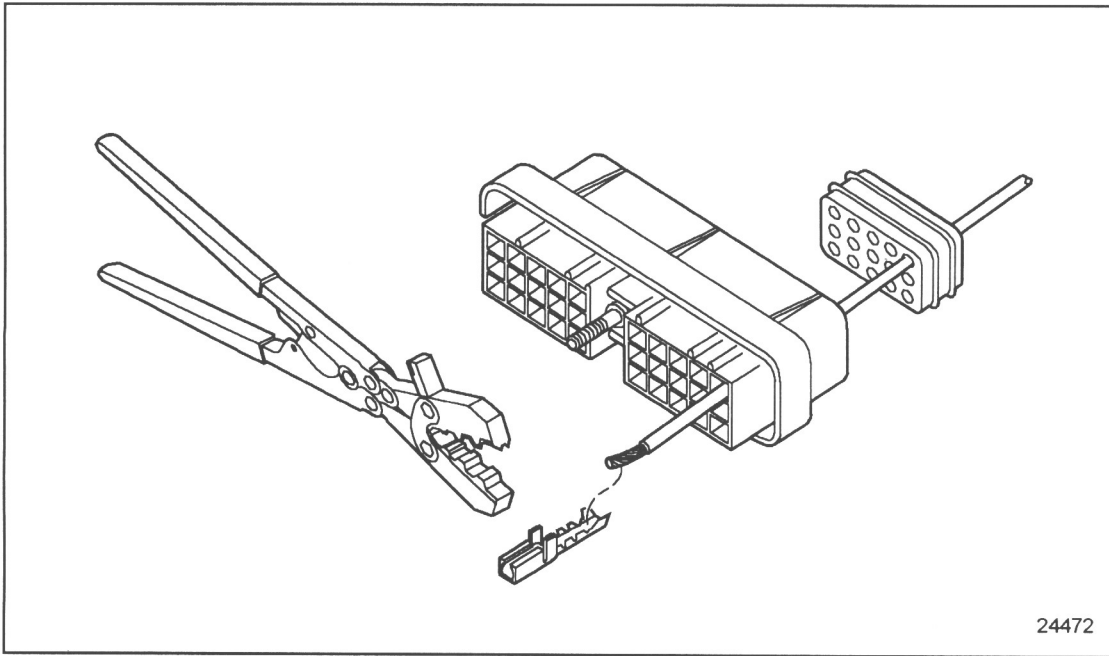

Figure 8–2 Terminal and Crimping Tool Position
5. Push the terminal holder to the open position and insert the terminal until the wire attaching portion of the terminal rests on the 20–22 anvil. Be sure the wire core wings and the insulation wings of the terminal are pointing toward the upper jaw of the crimping tool. See Figure 8–2.